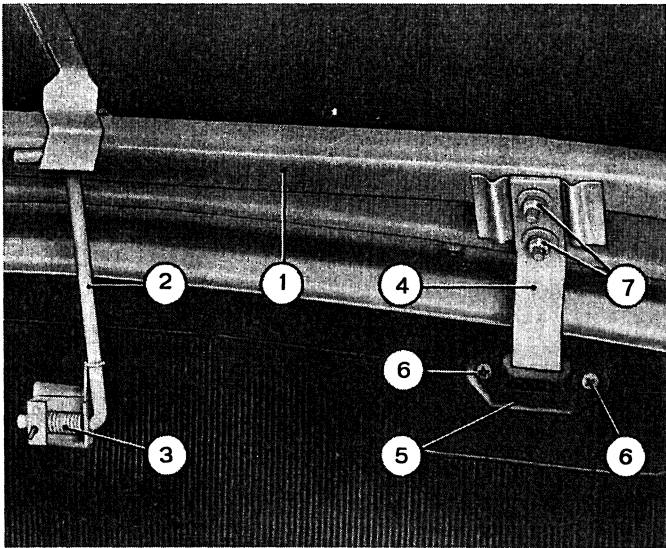

Fig. 495 - Close-up view of front compartment lid staying and hinging system, « Sedan ».
The two hinges are welded on cowl; their passage into dashboard is lined with a gasket (fig. 495).
Lid is held open by a prop (2, fig. 495) inserted in a bracket welded to dashboard and loaded with a spring (3), which has also the task of fastening the prop.